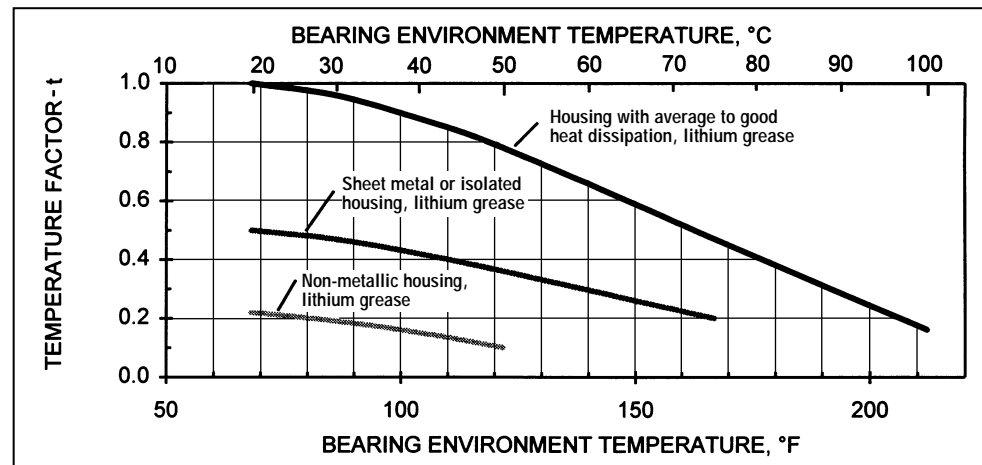

Figure 5-6. DX Environmental Temperature Factor – t
- $t$  = operating temperature factor, Figure 5-6
The effect of environmental temperature and basic type of grease lubricant is shown by application factor, *t*, as shown in Figure 5-6. The heat dissipating properties of the housing, especially if the bearing is mounted in an area close to an engine or other heat generating unit, affect bearing surface temperature and are particularly important at high PV values. When the temperature approaches the top limit of 260°F (125°C), consult our Application Engineering Department.